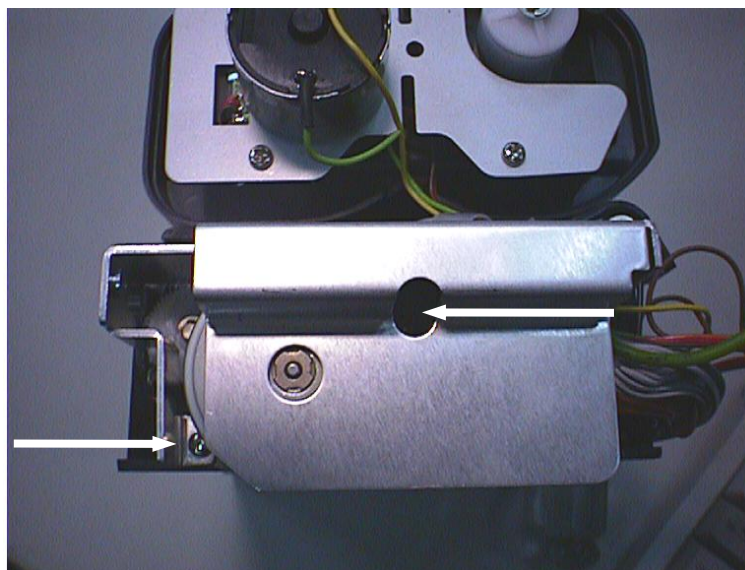

Fig. 4.9 Stepping Motor
15. Remove the two screws, stepping motor and stepping motor cover. (Cf. Fig. 4.9)